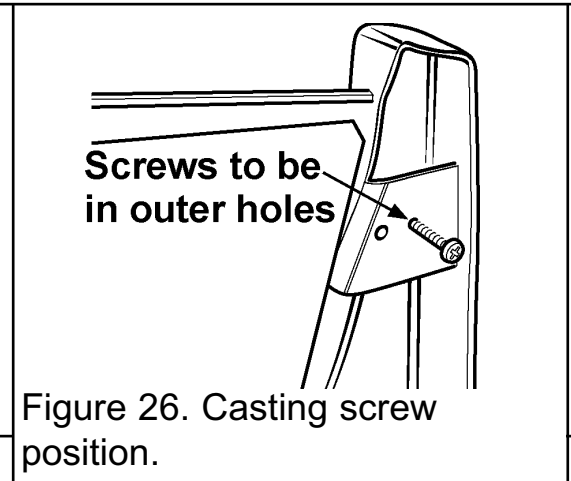

Figure 26. Casting screw position.
1. Check that the two screws in the back of the fire front casting are in the outer threaded holes. If they are in the inner holes, relocate them (See figure 26).